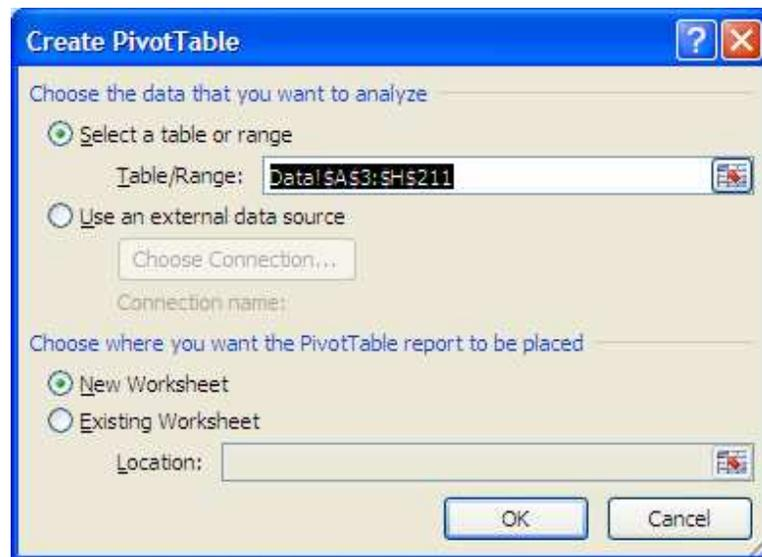

Figure 3.4: The basic Pivot Table dialog box.
2. Go to the "Insert" menu and select "Pivot Table". This will bring up the Pivot Table dialog box shown below in figure 3.4 (page 89).